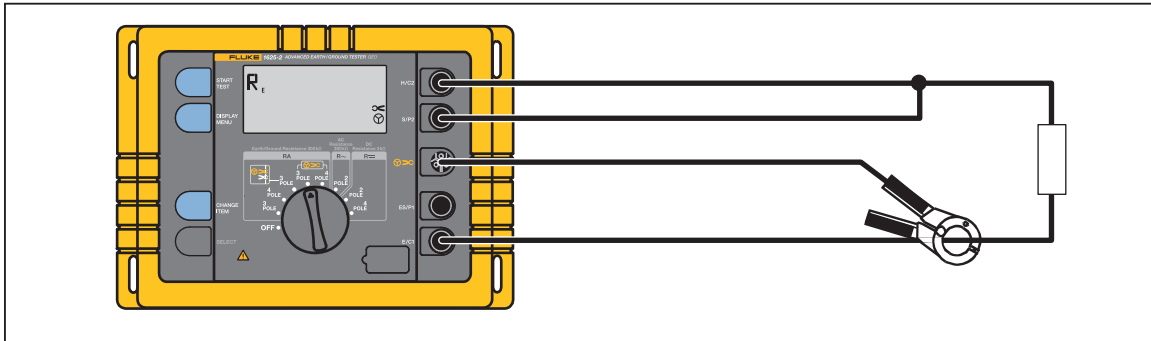

Figure 9. Clip-on Transformer Connection
4. Connect clip-on transformer. See Figure 9.